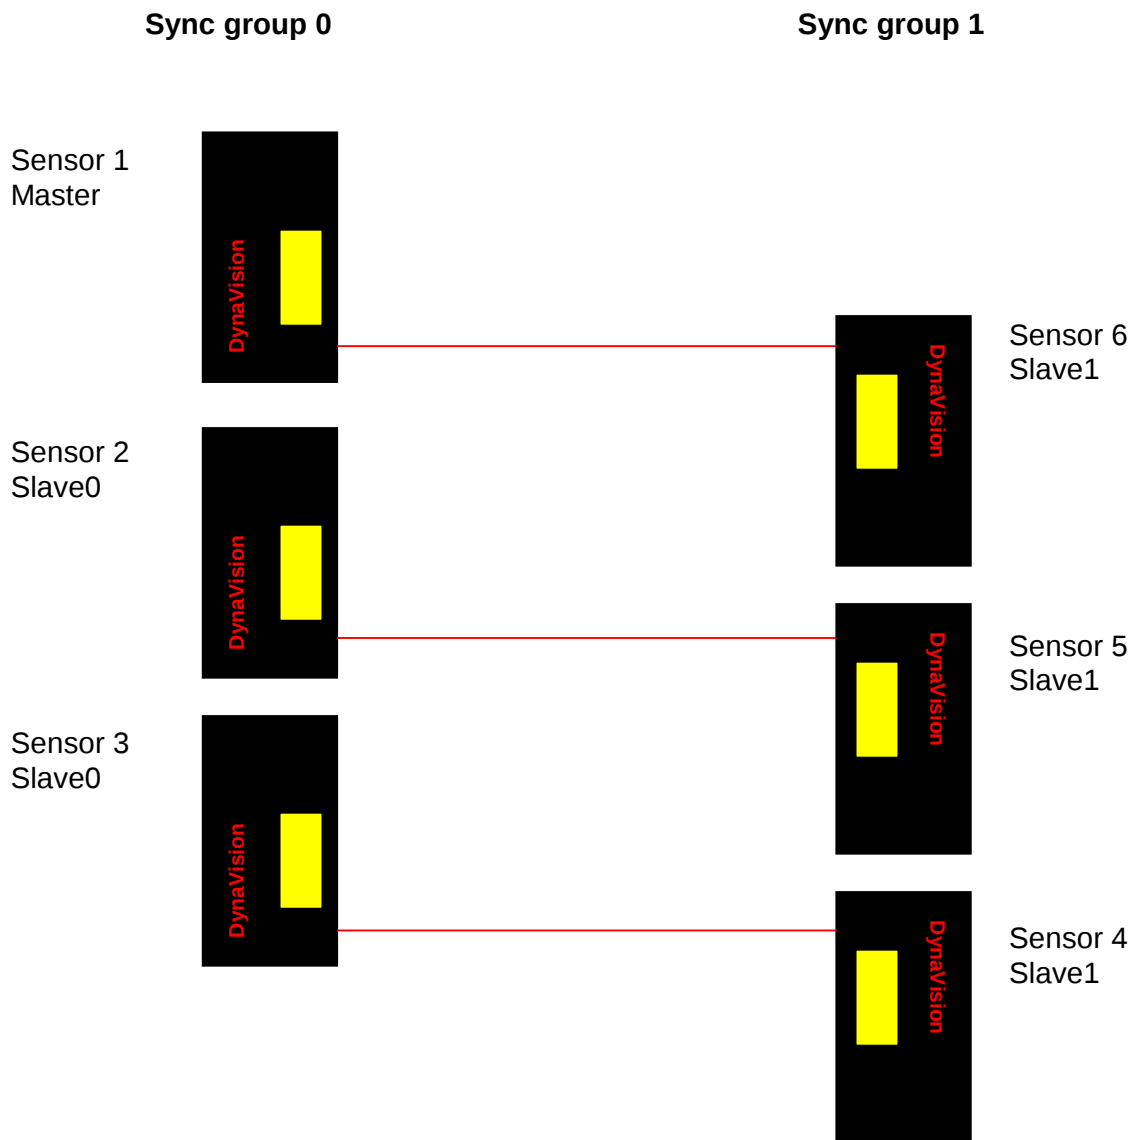

Figure F.1: Layout of a Multiplexed Scanner System
L1 Multiplexing modes permit two rows of L1 sensors to operate without interference even while their measurement regions and lasers overlap. The heads are split into one or two Sync Groups (see **Figure F.1**). This feature may also be used to synchronize the operation of a single row of L1 sensors.
- When the lasers from one head overlap the operating region of another, one head must be from Group 0 and the other head from Group 1 to prevent interference (see **Figure F.1**).